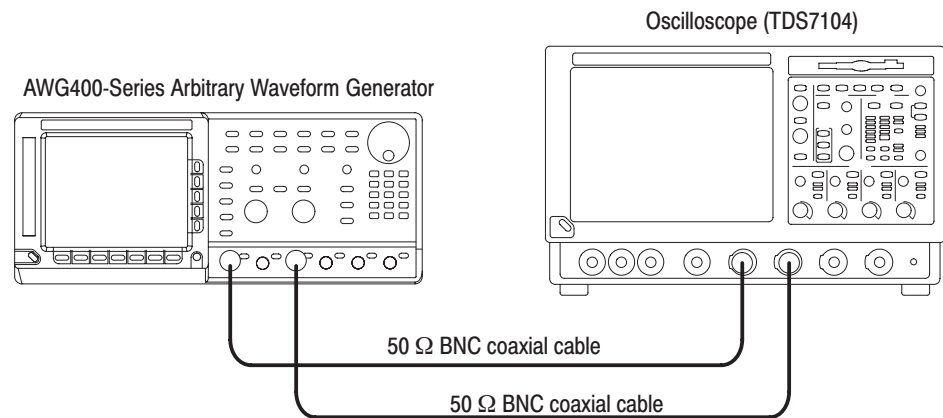

Figure 4–42: Channel skew test hookup
- a. Verify the Marker 1 output level. Verify that the waveform is displayed as shown in Figure 4–41.
- a. Use the 50 Ω BNC coaxial cables to connect the AWG400-Series CH1 and CH2 outputs to the oscilloscope CH1 and CH2 input connectors (see Figure 4–42).